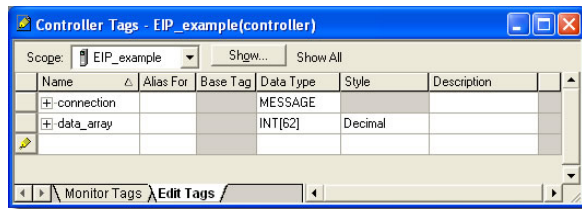

Figure 55: Create New Tags
- b) The “Controller Tags” window appears. Refer to Figure 55.